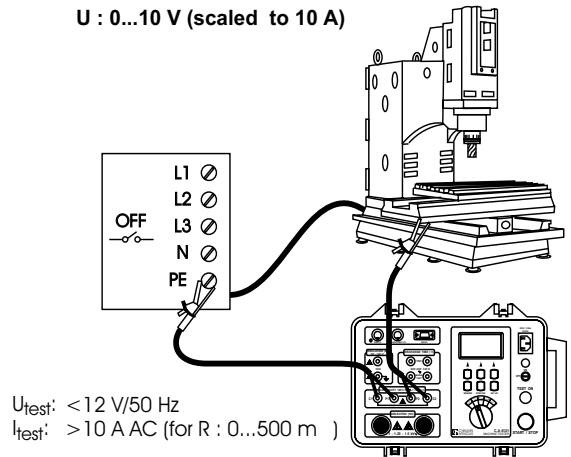

Fig.11. Connection of the test leads
3. Connect the test leads to the instrument and to the tested instrument in accordance with the figure 11.